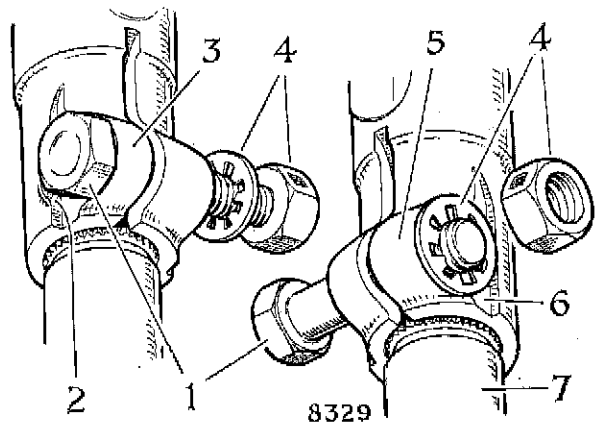

Fig. 6. Showing the attachment of the inner column to the steering unit pinion
3. A $\frac{5}{16}$ in. UNF through bolt, washer and "Wedglok" nut; these details permitted a greater tightening torque. See Fig. 6.
ii. Type 3, the through bolt is fed through the thinner lug of the inner column when the bolt head becomes captive. A new "Wedglok" nut and washer must always be fitted. See Fig. 6.